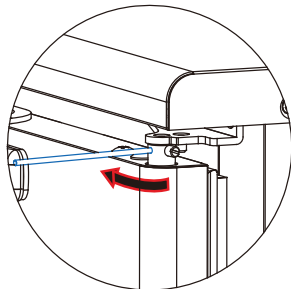

Fig 9-21
2. To remove the tension pin, slightly turn the stick along the direction of the arrow. Maintain the position of the stick by resisting the spring tension. (Fig 9-21)